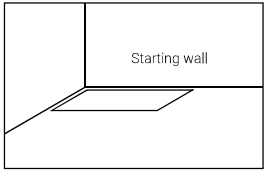

Fig.2 – Left corner of starting wall
- The planks will be installed starting in the corner of the room on the left side of the starting wall (Figure 2).